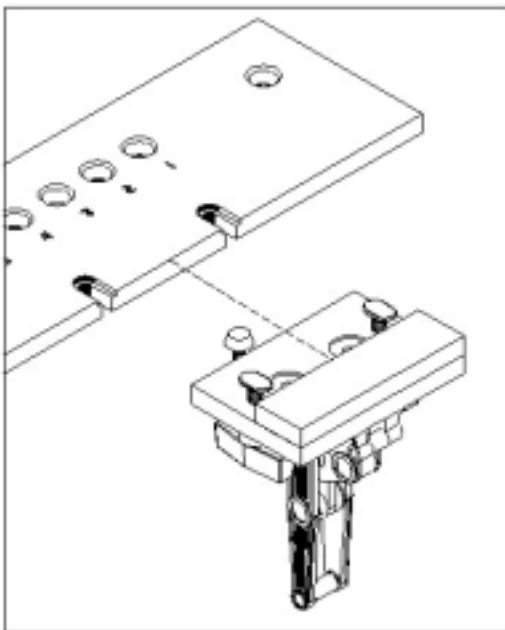

Figure 3
1. Attach the clamp-blocks to the hole-boring template as shown in Figures 3 & 4. Tighten the T-Nuts (C) to secure the clamp-block to the hole-boring template. Note: It only takes a little pressure to secure the clamp-blocks to the hole-boring template. **DO NOT overtighten the T-Nuts or you could damage the hole-boring template.**